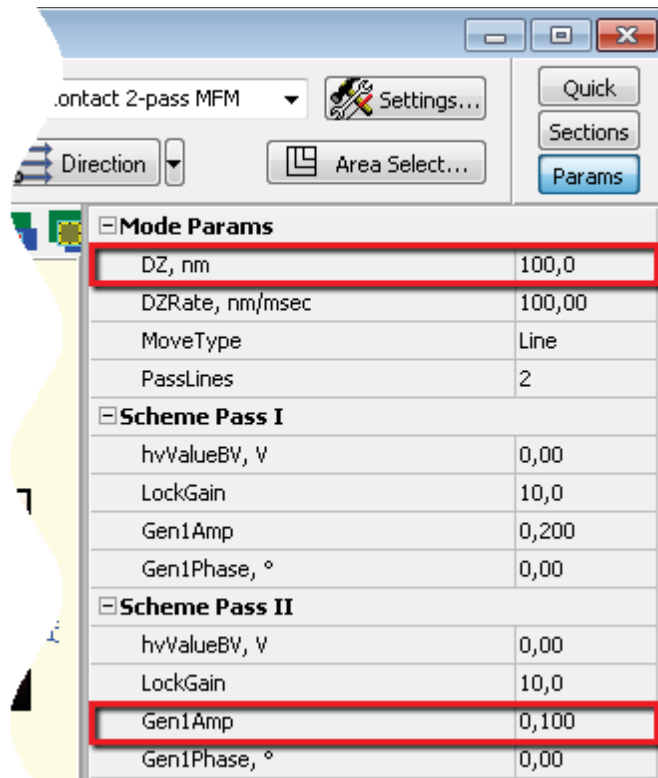

Fig. 9-6. Additional Parameters panel
2. Observe quality of the acquired image and vary the sample-probe distance. This needs modification of the **DZ** parameter in the **Mode Params** group (Fig. 9-6).
- Observe quality of the acquired image and vary the generator output amplitude. This needs modification of the **Gen1Amp** parameter in the **Pass II** group (Fig. 9-6).